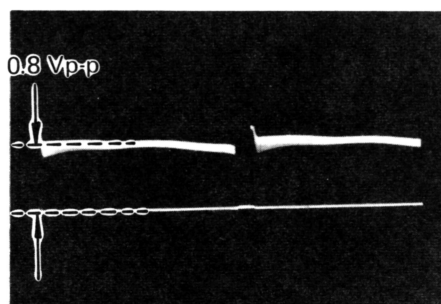

Fig. 4-5
2. Adjust R56 (Beam VR) on H/DEF to obtain 0.8 Vp-p video level as shown in Fig. 4-5.